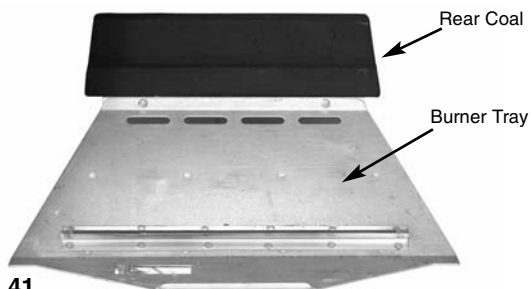

Fig. 41
1. Place the rear coal on the rear coal retainer ledge in a central position, ensuring the step portion is facing the front (Fig. 41).